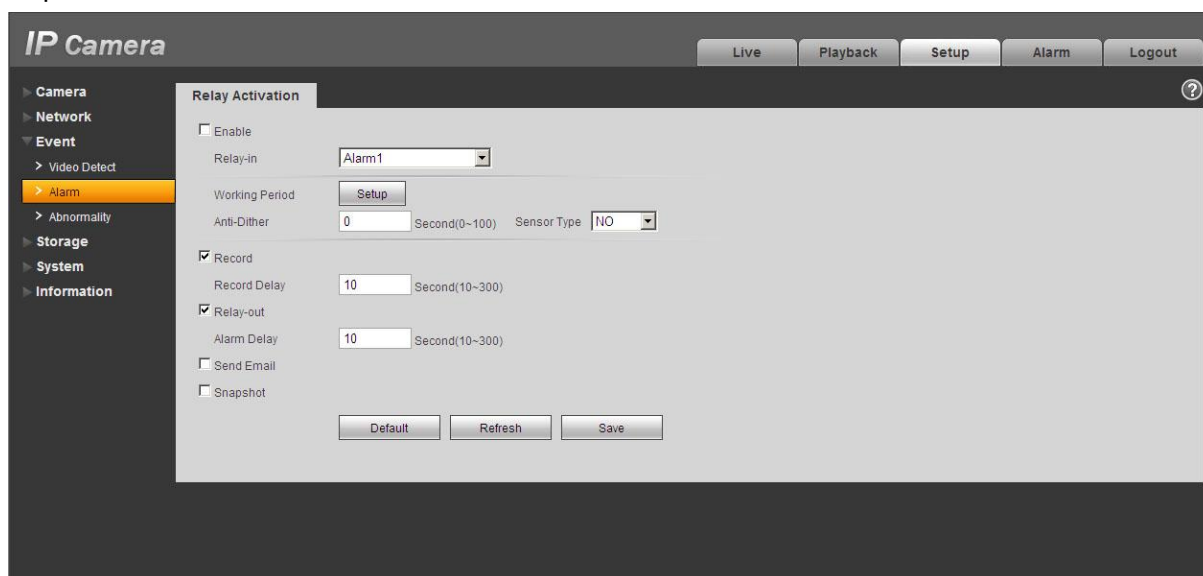

Figure 2-5 Alarm
The alarm interface is shown as in Figure 2-5. Please follow the steps listed below for local alarm input and output connection.
- 3) Open the Web, go to the Figure 2-5. Please set the alarm input 01 port for the first channel of the I/O cable (No.3 pin). The alarm input 02 is for the 2nd channel of I/O cable (No.4 pin). Then you can select the corresponding type (NO/NC.)